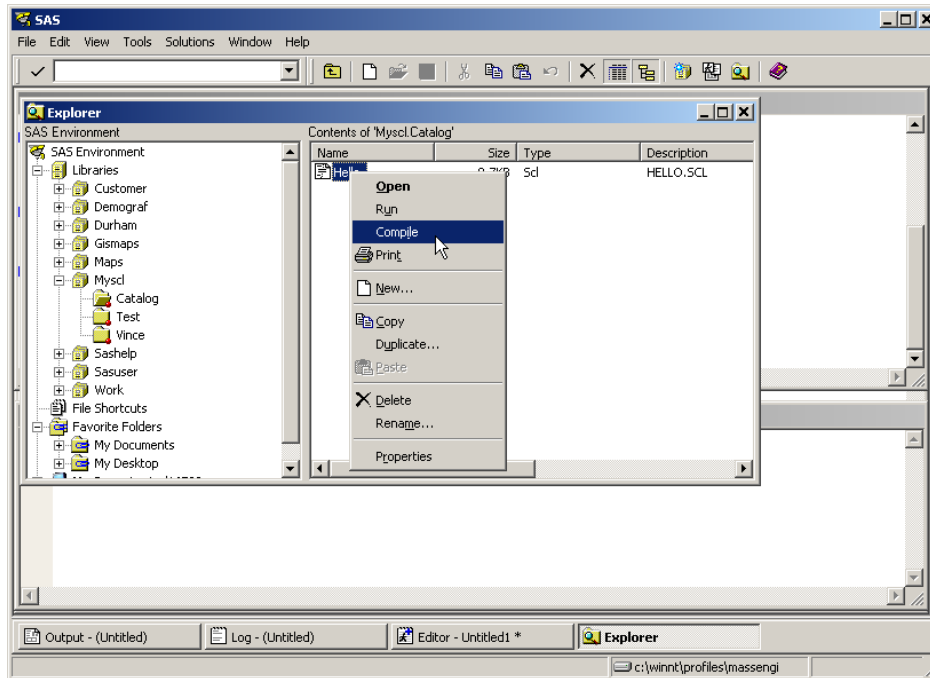

Figure 2. Compiling the SCL
- In the Explorer window, right click on the program name and select 'compile' (see Figure 2). Be sure to check for errors in the SAS log. Correct any errors and compile until it compiles cleanly. Then close the Explorer window.